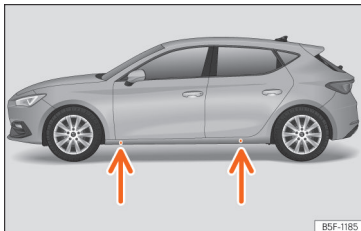

Fig. 242 Jack position points.
- Look on the strut for the mark of the jack support point (sunken area) closest to the wheel to be changed »» Fig. 242.